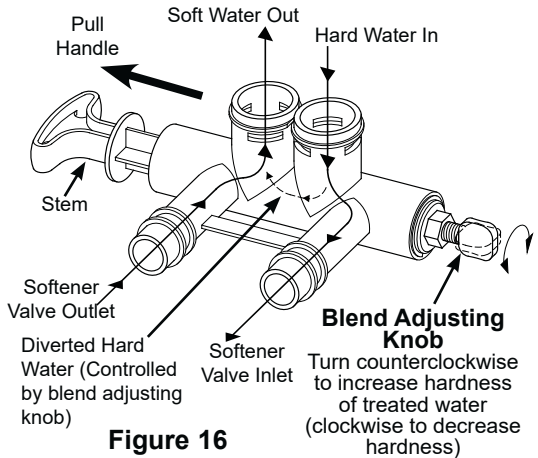
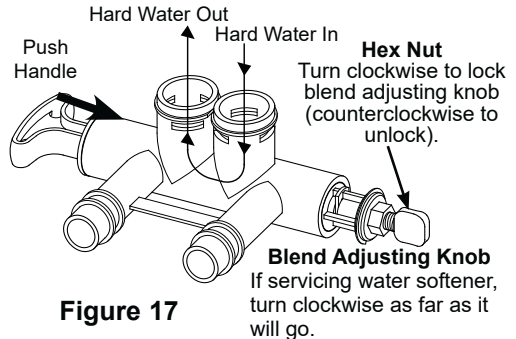

Figure 16
Figure 17
The blend adjusting knob (Figure 16) gives the ability to finely adjust hardness of the treated water leaving the water softener. If slightly harder water is desired than is normally delivered by the water softener, the blend adjusting knob can divert a small stream of hard water and blend it with the soft water entering the home. The amount of water diverted is controlled by turning a blend adjusting knob on the end cap of the valve stem.
1. Hold bypass handle to keep the valve stem from rotating (see Figure 16). Loosen hex nut on blend adjustment knob by turning the hex nut counterclockwise (see Figure 17).
2. **TO INCREASE HARDNESS:** With the bypass in the service position (see Figure 16) hold the handle to keep the valve stem from rotating and turn the blend adjusting knob counterclockwise up to 2 turns from the closed position. It is recommended that adjustments be made in quarter turn increments over several weeks until the desired hardness is achieved. **NOTE:** Once an adjustment is made to the blend valve knob the change in water hardness at the homes faucets or shower heads may take several days to be noticed. This delay is due to the large amounts of already conditioned water in the pipes and water heater that must be exchanged before a change in hardness can be noticed. Have the water tested to determine the actual water hardness.
3. **TO DECREASE HARDNESS:** With the bypass in the service position (see Figure 16) hold the handle to keep the valve stem from rotating and turn the blend adjusting knob clockwise. When the knob will not turn anymore, hard water is no longer being blended into the soft water.
4. Once the desired hardness is achieved tighten the hex nut (see Figure 17) clockwise until it comes in contact with the bypass stem.